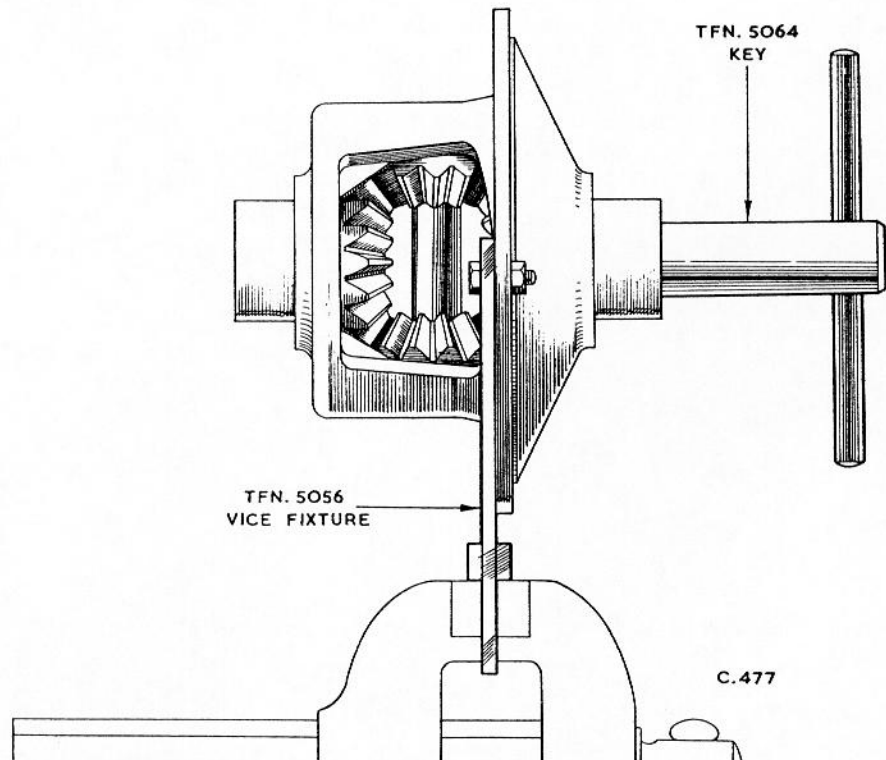

Fig. 14 Checking bevel pinions and gears.
2. Secure the fixture TFN.5056 (see Fig.14) in a vice then secure the mounting to the fixture.
4. Using the key TFN.5064 as shown in Fig. 14, make sure that the pinions and gears are free in their respective positions, then check that the end-float between each pinion and gear and its respective thrust washer is within the limits given in the General Data. If necessary, correct by selecting suitable thrust washers. When this is satisfactory, fit the locking pin and lock with  $1/16 \times \frac{1}{2}$  in. split pin.